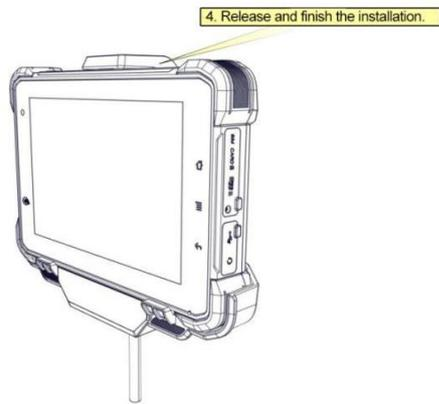

Fig 4.4
4.1.4 Release and finish the installation as Fig.4.4 shown.